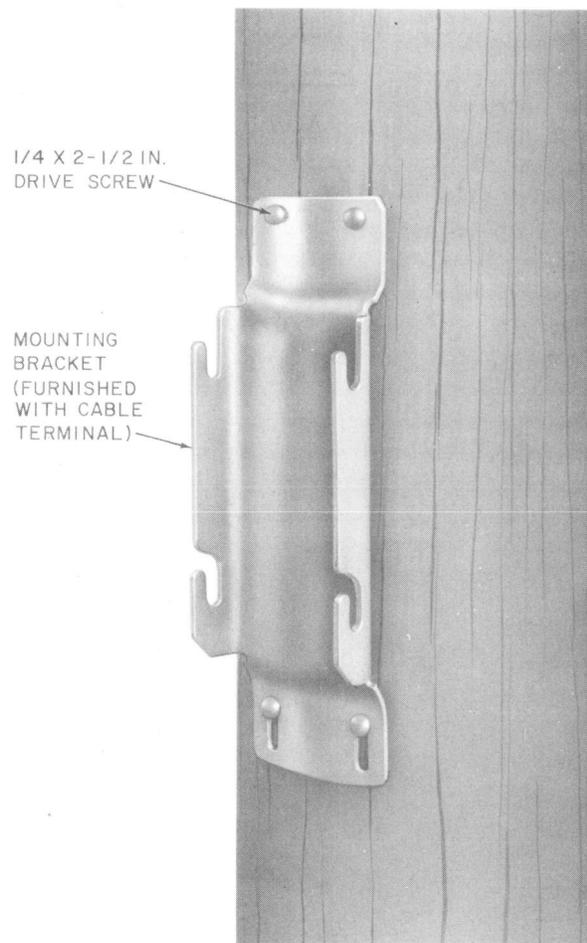

Fig. 3—Mounting Bracket Attached to Pole
4.01 Attach the mounting bracket furnished with the 53A3-50P cable terminal to a pole as shown in Fig. 3.